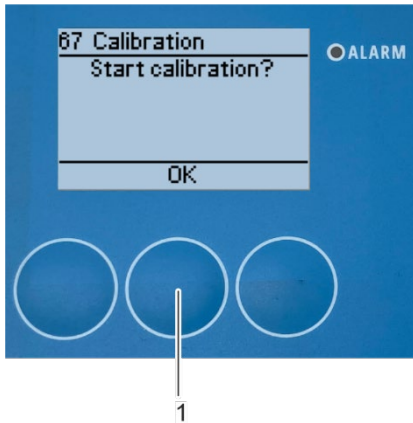

Fig. 110: Start calibration
5. Start the calibration with [OK] (Fig. 110/1).